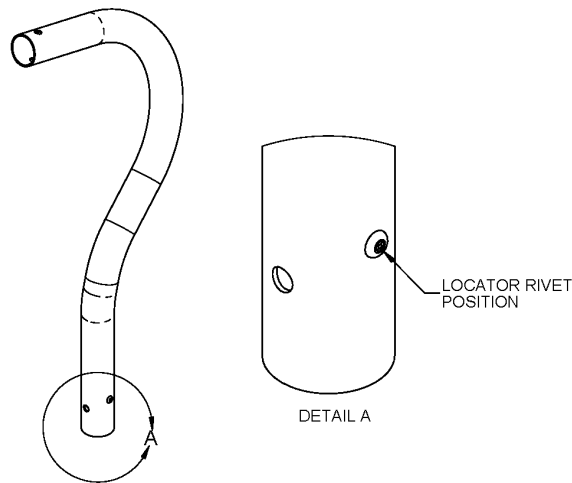

FIGURE 16: LH CYCLIC STICK LOCATOR RIVET
5.3.4 Inspect the G12324 or G12426 LH Cyclic Stick for the installation of a locator rivet as shown in Figure 16.